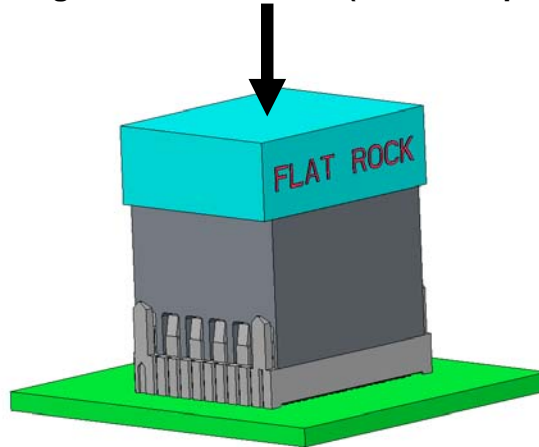

Figure 36: Flat Rock Tool Used to Seat Vertical Connector
- Using a flat rock surface and an insertion press, apply force to the top of the insert tool as shown in figure 36.